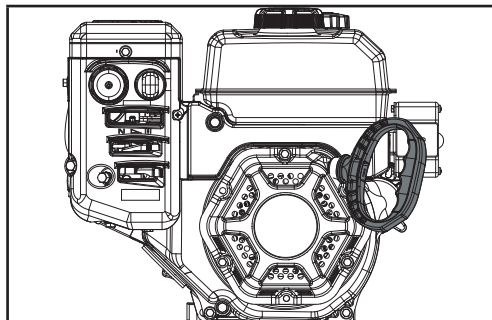

Figure 14
4. Stand back and to the right of the unit, pull the starter grip lightly until you feel resistance then pull briskly. Return the starter gently. (Fig. 14)